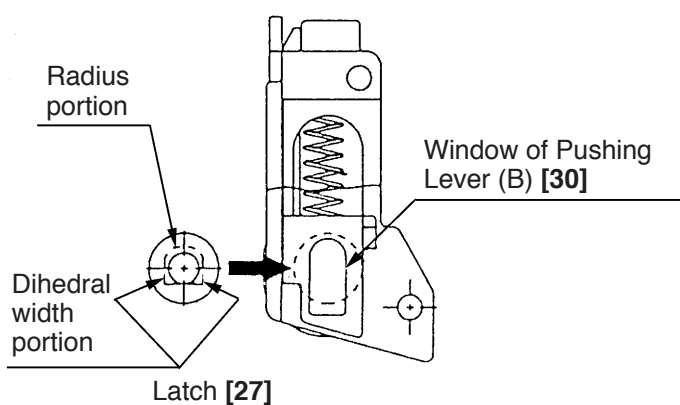

Fig. 24
- Align the dihedral width portion and the radius portion of the Latch [27] to the window of Pushing Lever (B) [30] when reassembling (Fig. 24).